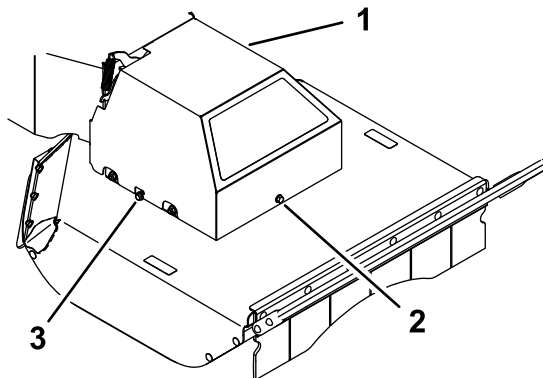

Figure 33
5. Loosen the left and right side bolts a few turns, and loosen the front bolt until the cover is loose (Figure 33).
11. Lower the belt cover onto the deck, aligning the slots in the cover with the side bolts. Tighten the front bolt, then tighten both side bolts (Figure 33).